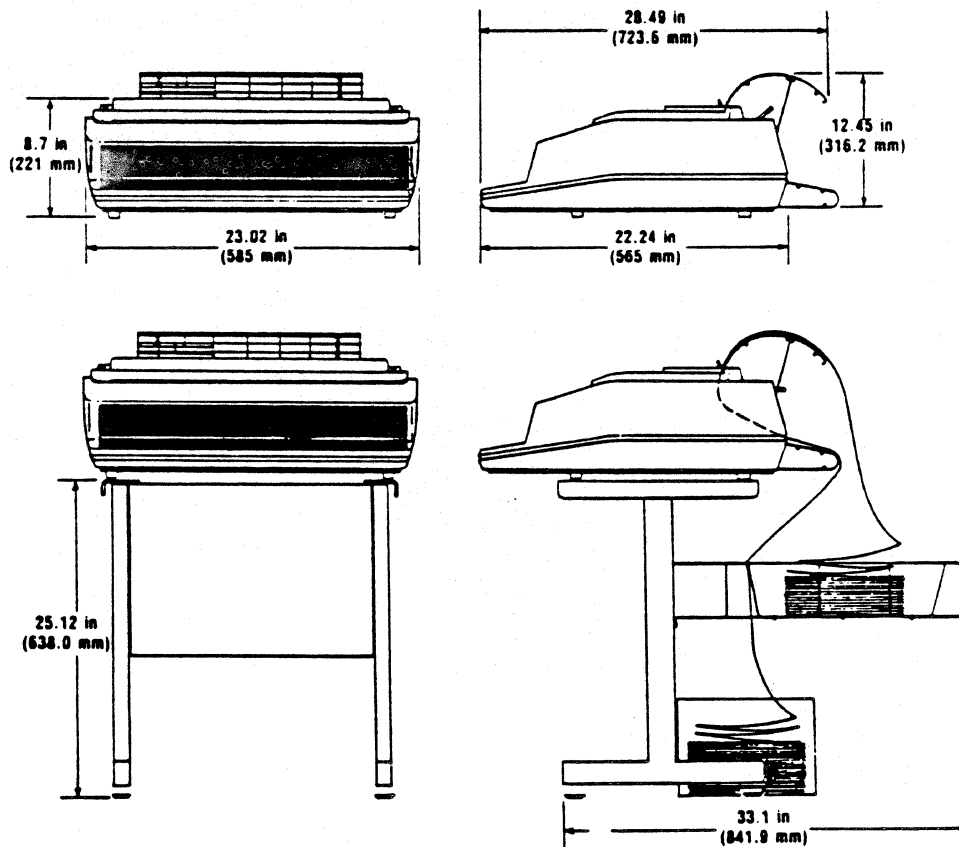

Figure 1-2 Printer Dimensions
2. One coaxial cable with a BNC coaxial connector, and an IBM 3274 type A Control Unit (CU) or equivalent unit to attach it to. The length should not exceed 1500 meters (4920 feet).
4. One table or print stand with enough room around it for ventilation, hookup of the cables, a user work area, and any additional equipment you may want. (See Figure 1-2 below)